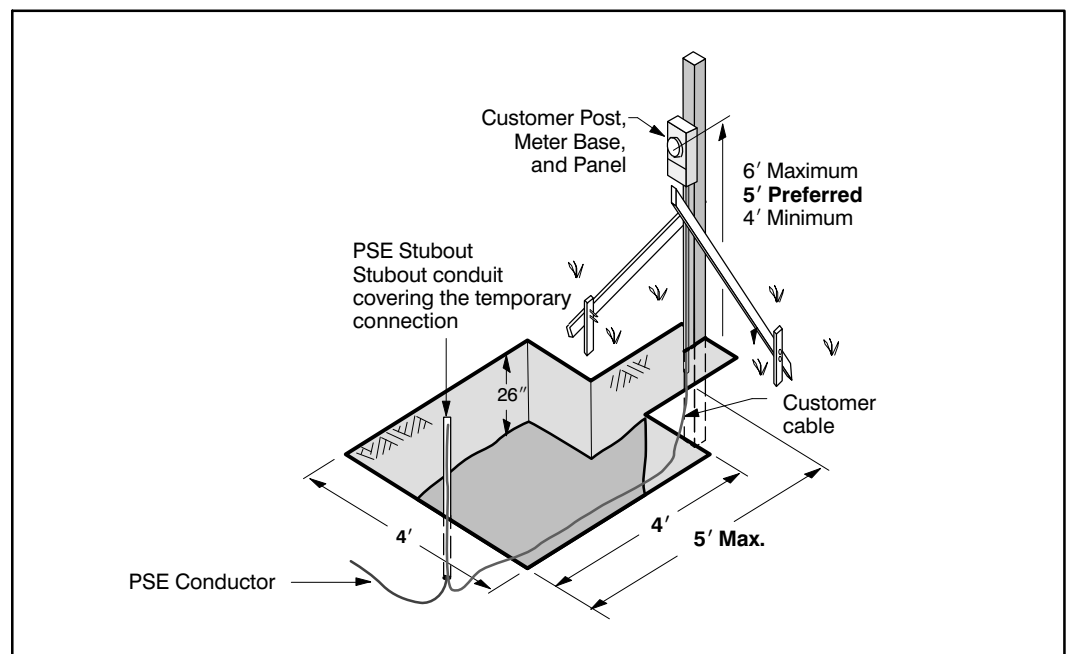
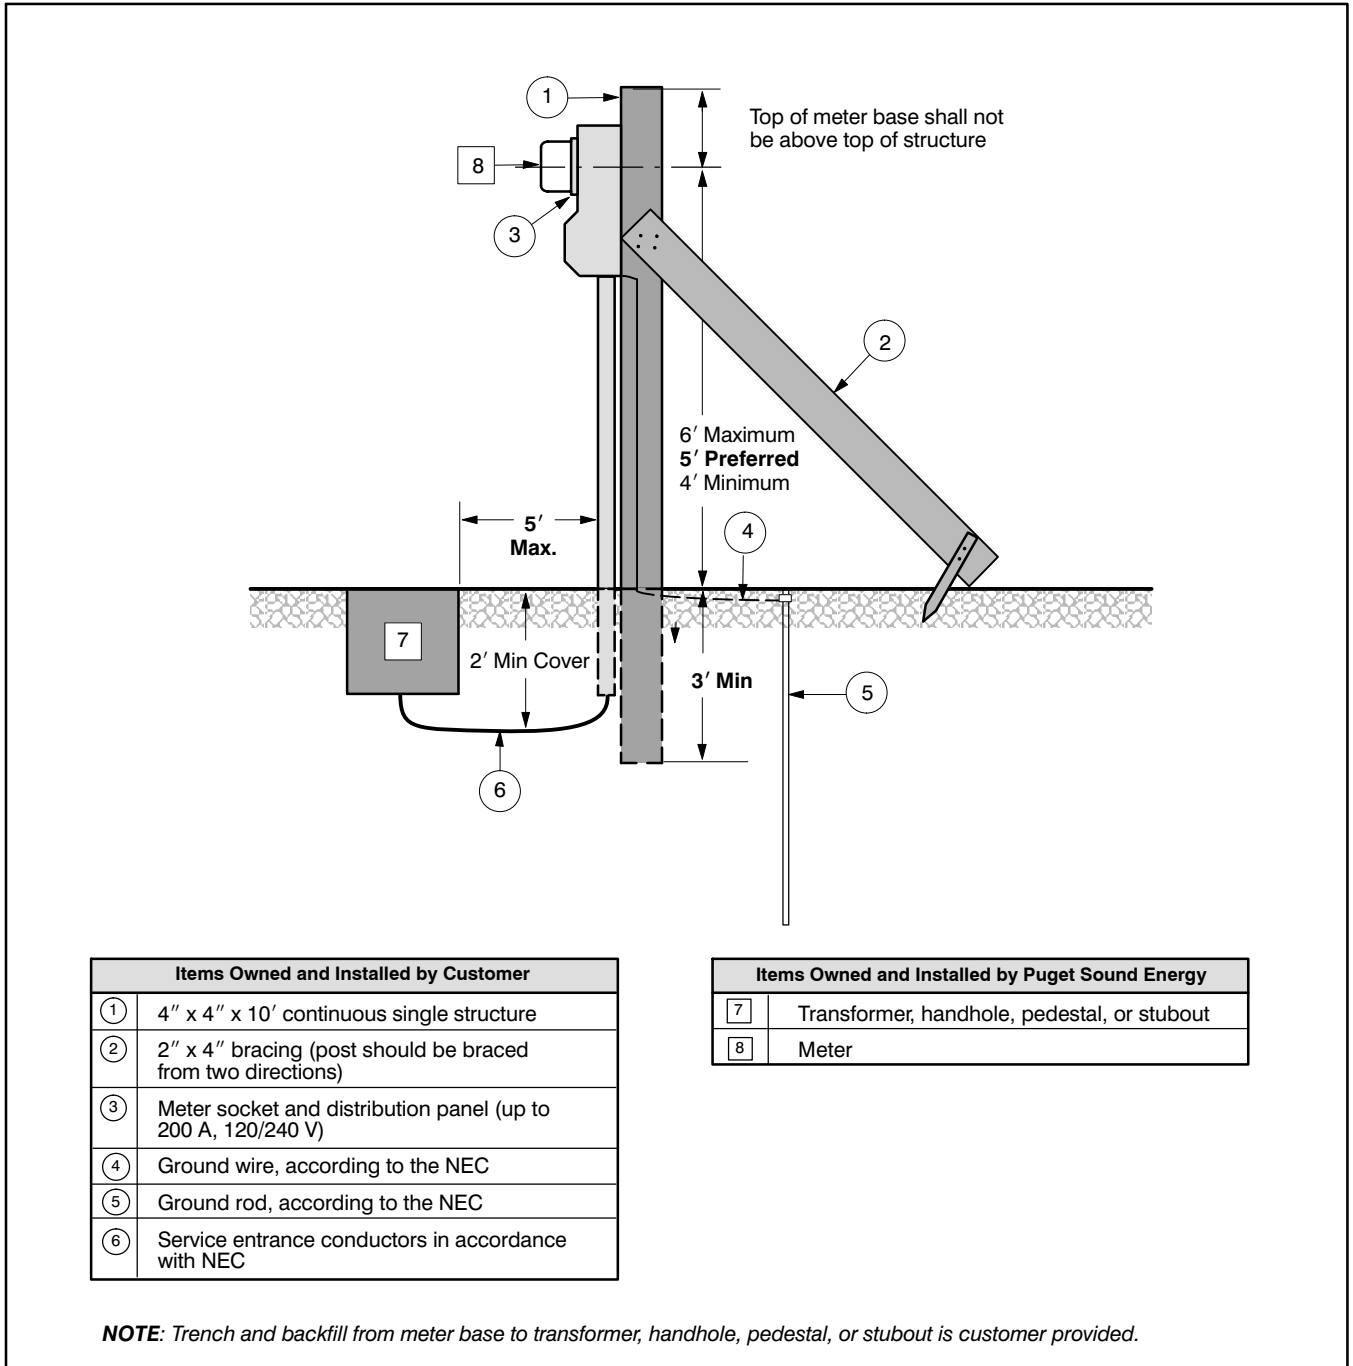

Figure 32 Trenching requirements for power stubout
Figure 33 Temporary underground service installation
The process and cost of obtaining your temp underground service can vary, depending on the location of our existing facilities. If there is a power stubout, handhole, pedestal, or transformer located on your property (see *Preface, Figure 1*), engineering may not be required. Simply install your temp service facilities (see *Figure 32 and Figure 33*), obtain an electrical inspection, and call PSE to connect your temp service.
It is the **customer's responsibility** to provide the trenching needed to connect to a power stubout (shown in *Figure 32*). The cable you provide is to be sized according to the NEC and have a minimum 24 inches of backfill coverage.
4. Install your meter pedestal and meter base/socket in the appropriate location (see *Figures 32 and 33*).